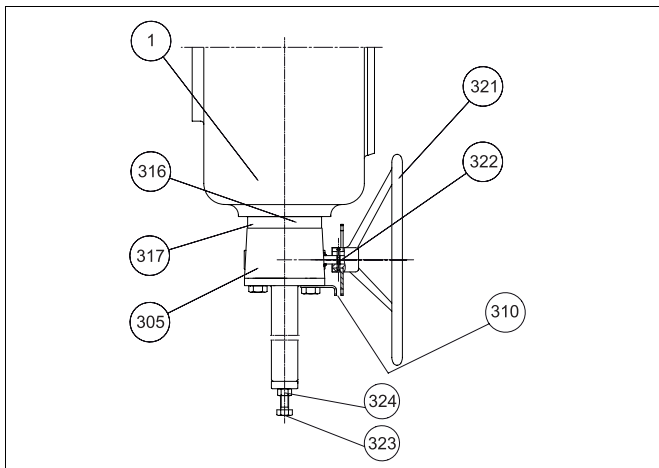

Fig. 29 B1JARR actuator
The B1JARR actuator is otherwise like the B1JA, except that it can be operated manually to bring the piston to the upper position against the spring in case there is no air supply. Turning the handwheel clockwise closes the valve. The B1JA actuator can be changed into a B1JARR by replacing the housing (1) and adding parts (305 to 324), see Fig. 29.
Parts list for Fig. 29: